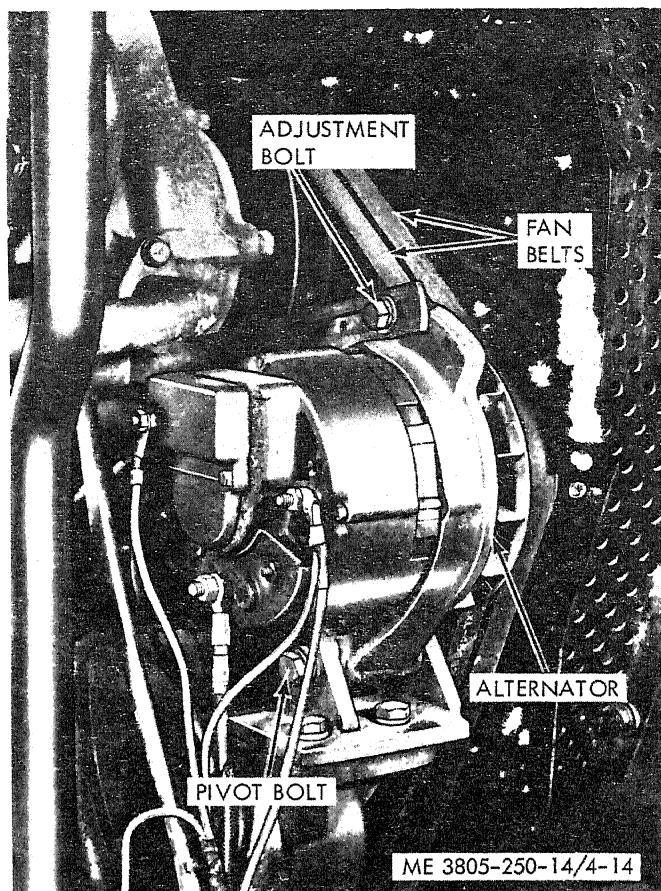

Figure 4-14. Fan belts.
b. Replacement (fig. 4-14).
(1) Remove the air compressor drive belt (para 4-65).
(2) Loosen the alternator pivot and adjustment bolts.
c. Adjustment (fig. 4-14).
(1) Apply a pressure of 60 psi to a point on the belts midway between the alternator and fan pulleys. Deflection should be $\frac{1}{2}$ inch.
(2) To increase tension, loosen the alternator